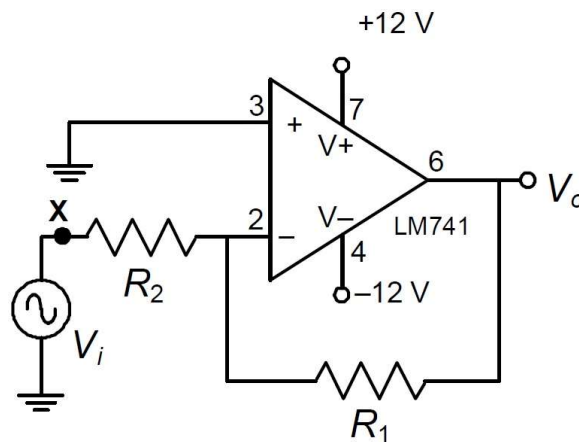

Fig.1
1. Assemble the circuit shown in Fig.1 with $R_1 = 10\text{k}\Omega$ and $R_2 = 1\text{k}\Omega$. Make sure the power supply ground is connected to the circuit ground.